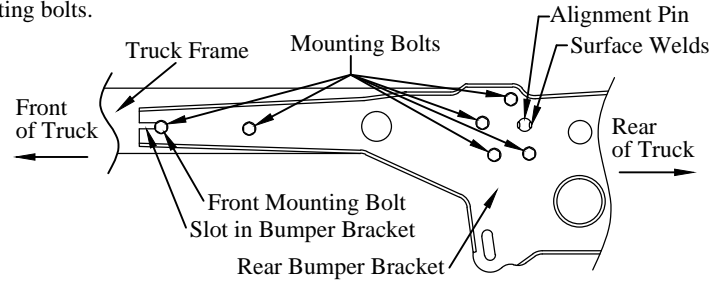

Figure 6: View of rear bumper bracket on outside of frame.
4. **Grind** the welds on the outer surface of the rear bumper bracket that are holding the rear bumper alignment pin in place, one (1) per side (Figure 6).